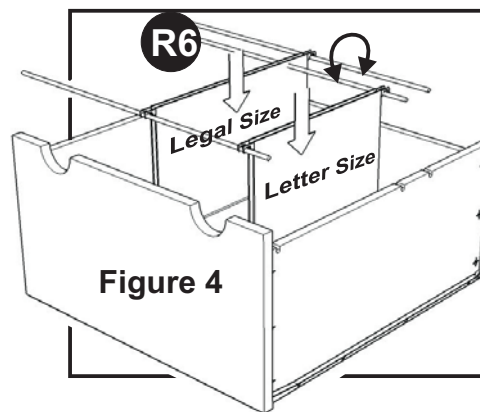

Figure 4
Assemble Pull Handles to Doors (O) and (P) with Machine Screws. (See figure 4)
Place Pencil Tray (S) into the position. (see Figure 4)